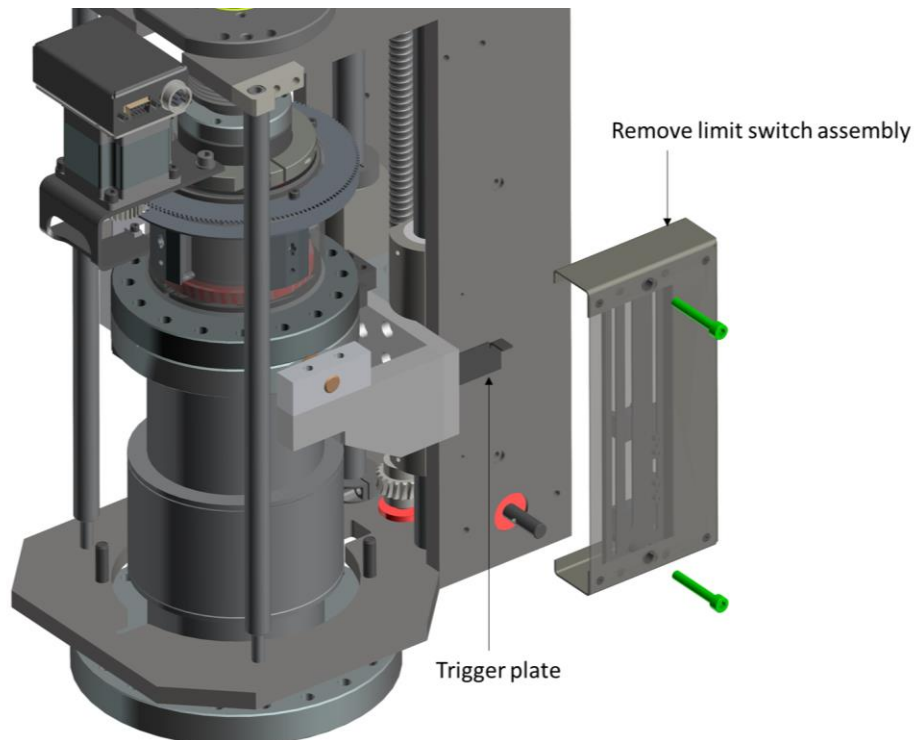
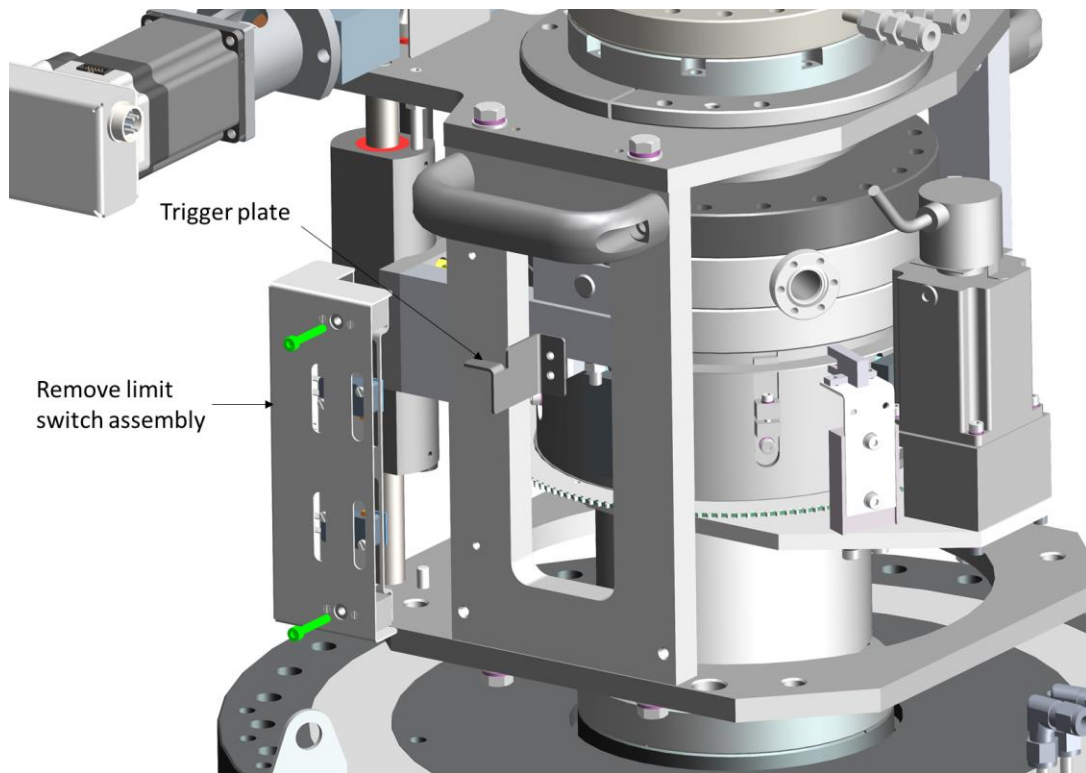

Fig. 7-5 Schematic showing the removal of the limit switch assembly (manual transfer system).
Fig. 7-6 Schematic showing the removal of the limit switch assembly (automated transfer system).
- Z-limit switch assembly, not that the trigger plate should remain in place (see Fig. 7-5 and Fig. 7-6)